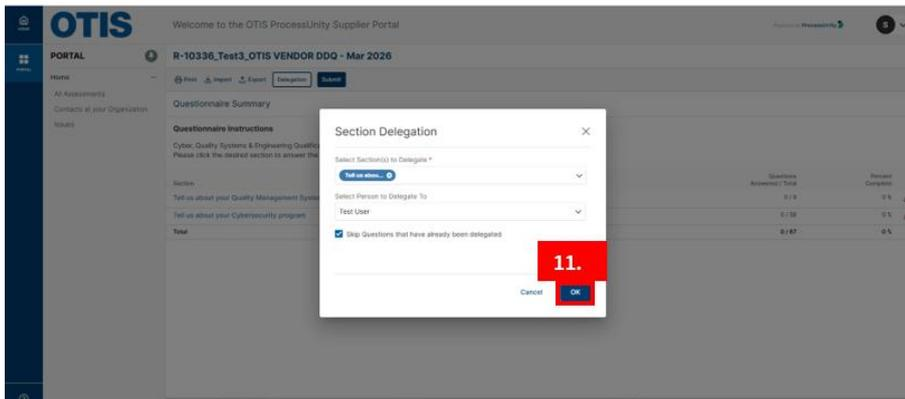

Figure 24
11. After you've selected the section to delegate and the supplier contact you want to delegate to then click on the OK button to delegate the section(s) to the selected supplier contact (Refer figure 24)